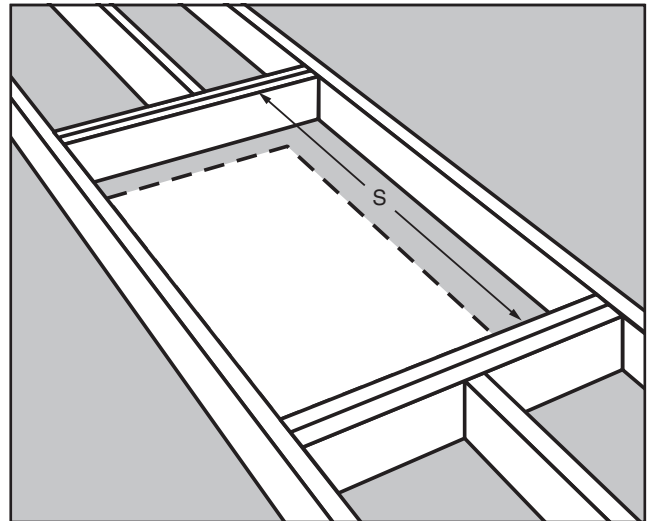

FIGURE 17
- STEP 1.** Measure the stringer length "S" between the headers (See Figure 17).
- STEP 3.** If the ceiling joist does not provide one side of the frame, then cut a second stringer the same length as the first one. Note that only one stringer is needed in Figure 17 because the ceiling joist provides one side of the frame.